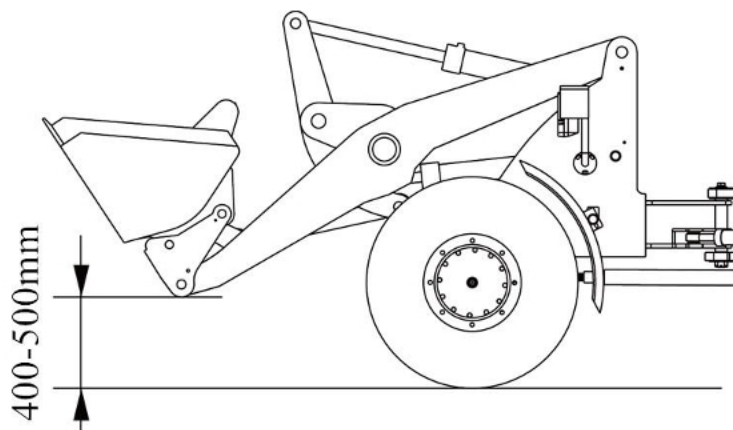

Figure 3-15 Driving status
6) When driving on flat ground, adjust height of the working device so that lower end of boom is 400mm to 500mm above ground, as shown in Figure 3-15.